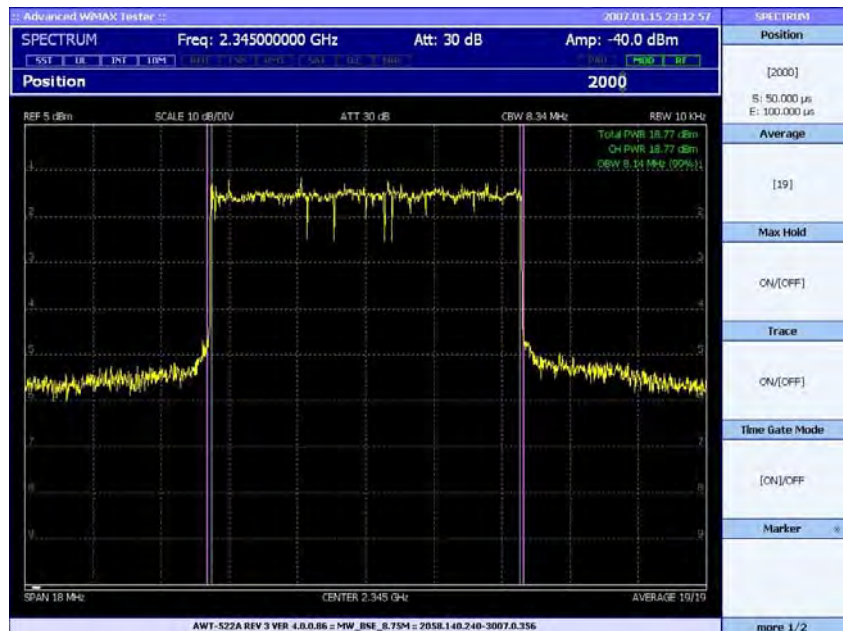

Figure 31 Initial Measurement Screen for SA Mode
- 2 **Select SA Mode:** In the initial **Measurement Window**, select the **Signal Analyzer** menu item. The DUT is now transmitting a signal. **Figure 31** shows the Initial Measurement Screen for SA mode.